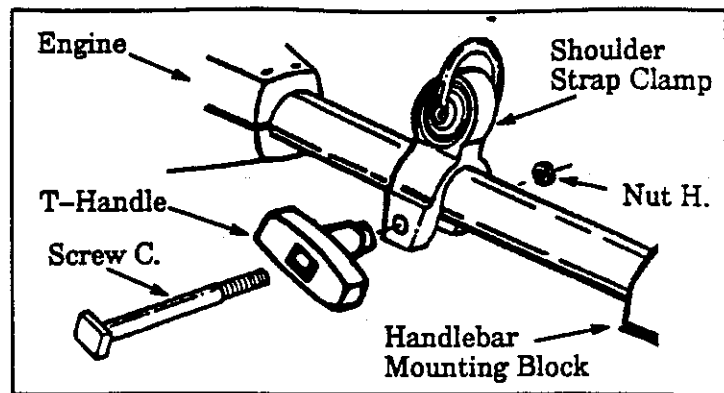

Figure 6
- a. Align Shoulder Strap Clamp between Handlebar Mounting Block and Engine. Figure 6 .
- b. Firmly push the Shoulder Strap Clamp onto the Drive Shaft Housing. Figure 6 . Be sure that the Shoulder Strap Clamp is installed with the hex shaped recession (on the clamp) facing the same side of the Drive Shaft Housing as the Barrier Portion of the Handlebar.